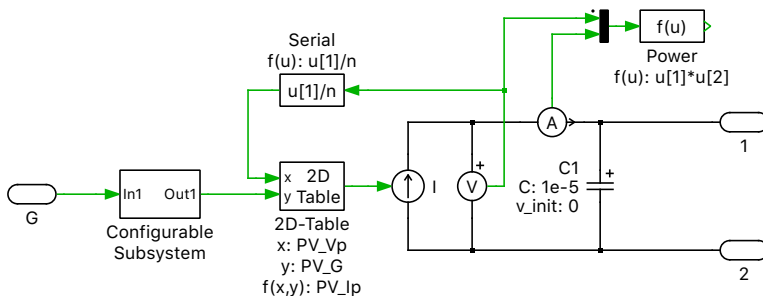

Figure 7: The Configurable Subsystem component allows changing the active configuration
- 4 Add a Subsystem component to the circuit model, and convert it to a Configurable Subsystem by right-clicking on the subsystem and choosing **Subsystem + Convert to configurable subsystem**. Then connect it as shown in Fig. 7. This modification will allow you to switch the signal source for the solar irradiance between the value given in the dialog mask or to use an external signal. Name the Signal Input block “G”. This input is used to bring the external irradiance signal into the masked subsystem.